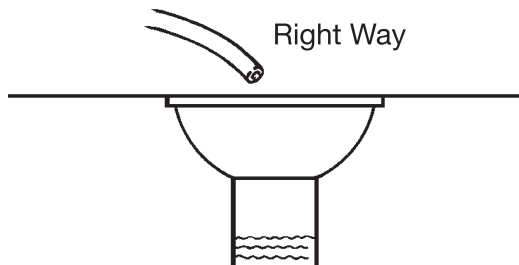

Figure 9. Drain Line Connection
**WARNING:** Never insert drain line directly into a drain, sewer line or trap (Figure 9). Always allow an air gap between the drain line and the wastewater to prevent the possibility of sewage being back-siphoned into the conditioner.